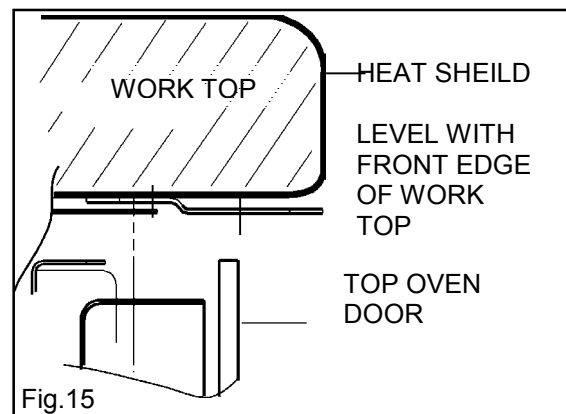
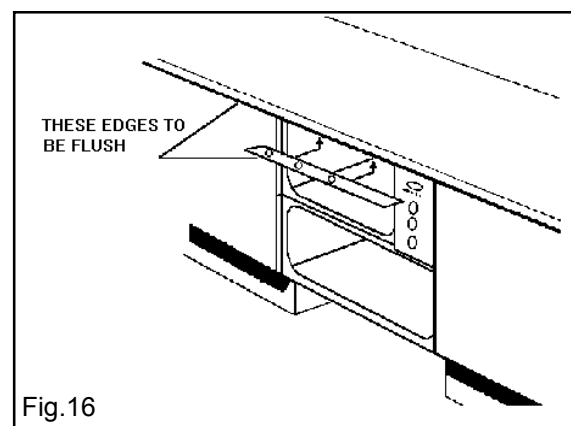

Fig.15
Fig.16
- Place the heat deflector flush with the edge of the work surface, (see Fig.15) with the cork spacers upover (see Fig.16) and screw into position using the screws supplied with the appliance.